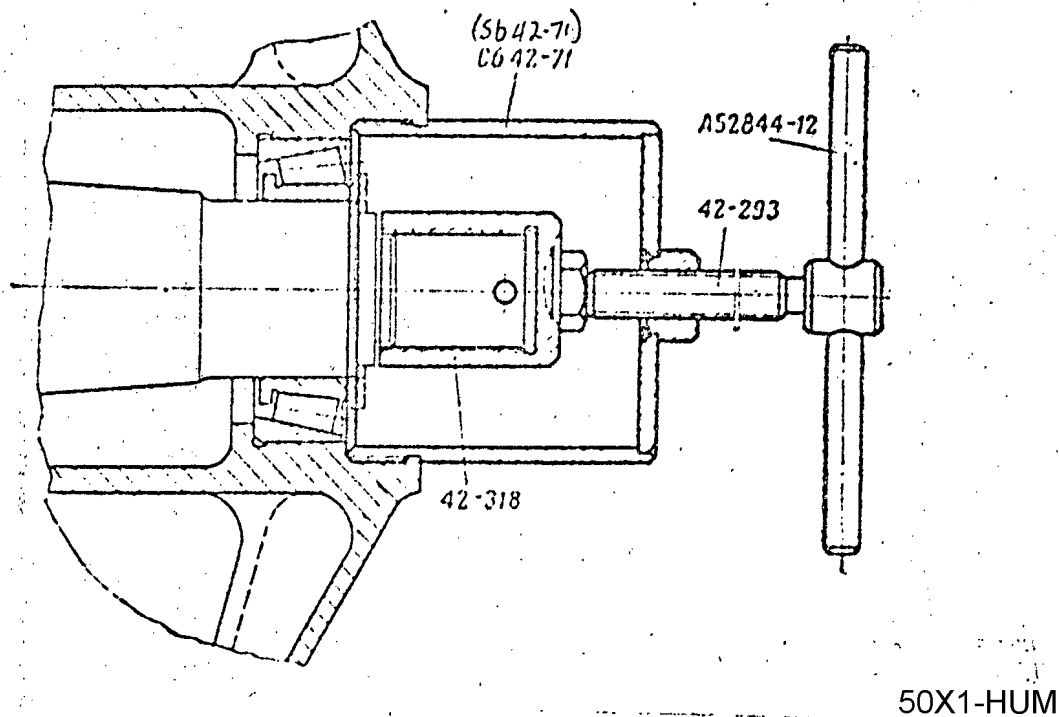

Fig. 112. Device for Removal of the Carriage Wheels (Sb42-70):
- assemble the device Sb42-70 (Fig. 112); insert the turning bar A52844-12 into the screw 42-293 of the device by turning the screw, take off the wheels.